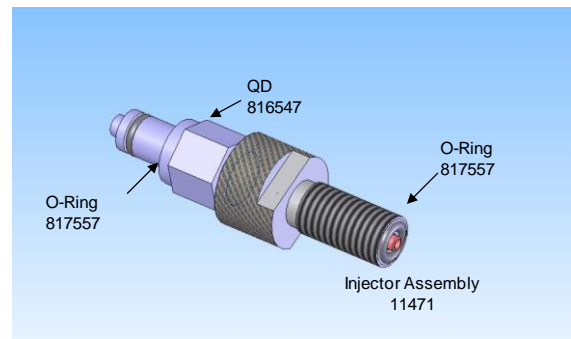

Figure 9: Injection assembly and spare part numbers.
- Figure 9 identifies these parts and the associated Novinium part number.